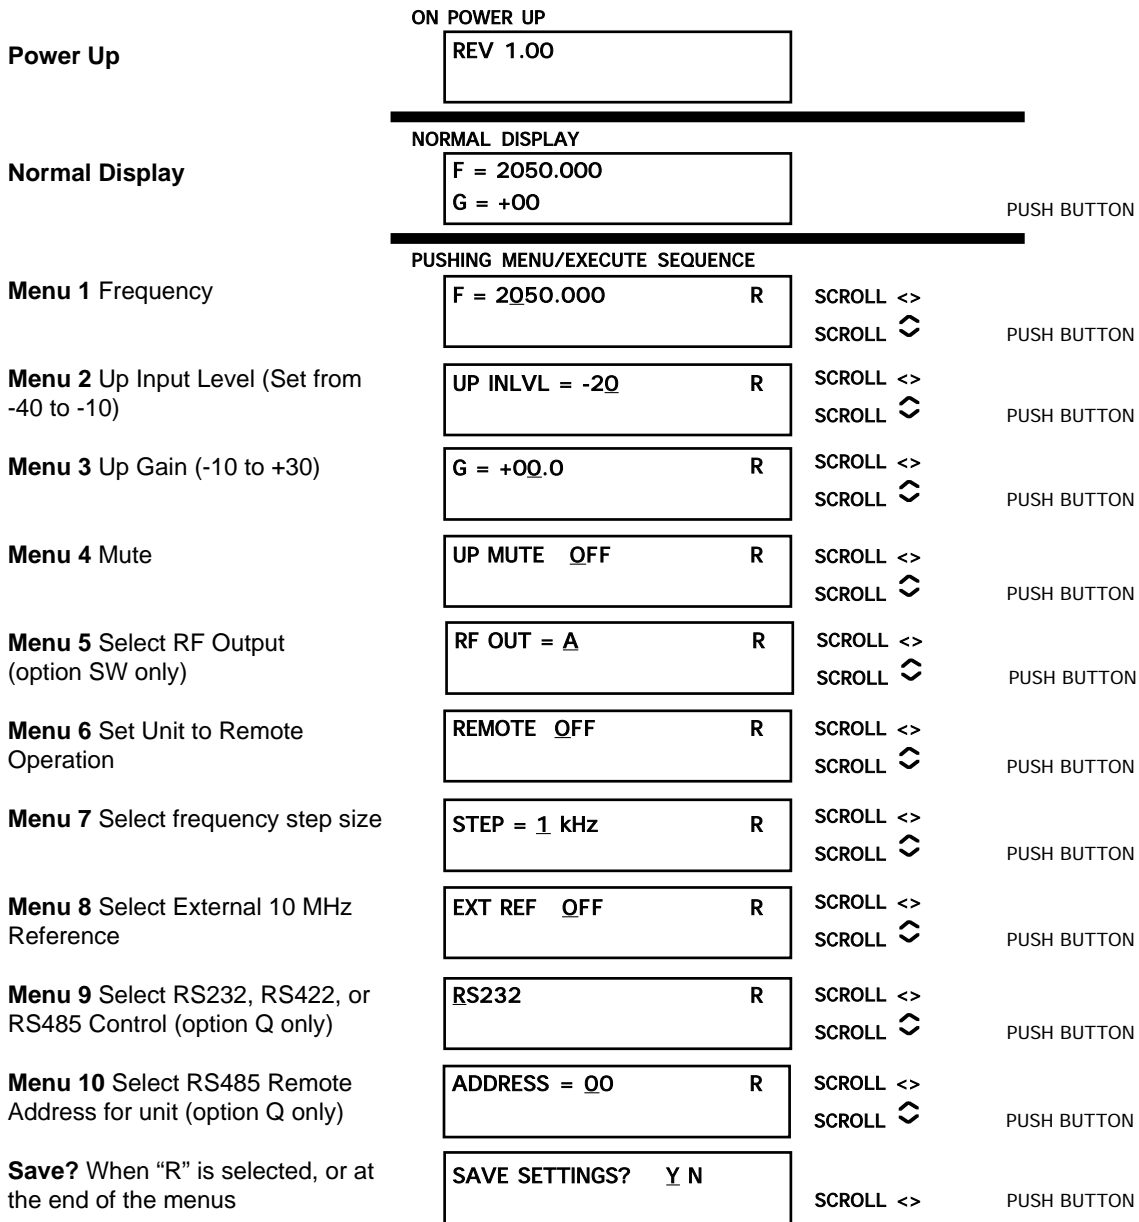

FIGURE 2.5 Menu Display and Sequence
This section describes operation of the front panel controls. There are three operator switches, the LCD display and alarm indicator LEDs. All functions for the equipment are controlled by these components. The functions are (see Figure 2.5):
1. Operate the Menu/Execute switch until you get to the menu item you want to change see Figure 2.5 for the sequence of menu options. The following display is for changing the upconverter frequency:
Figure 2.5 shows all the menu items and how to make changes.
1. Operate the Menu/Execute switch until you get to the menu item you want to change (see Figure 2.5 for the sequence of menu options).
Figure 2.5 gives the menu items and how to make changes